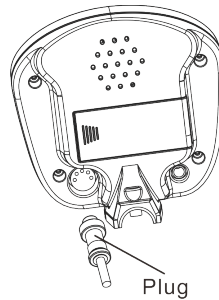

Fig.5
5. Wind the cable of the search coil around the aluminum stem, elastic moderate, let it not sway. Plug the cable plot into the lower right of the control box, aim at the slot, and plug into the end (see Fig.5). Note do not pull the cable, pull the plug.